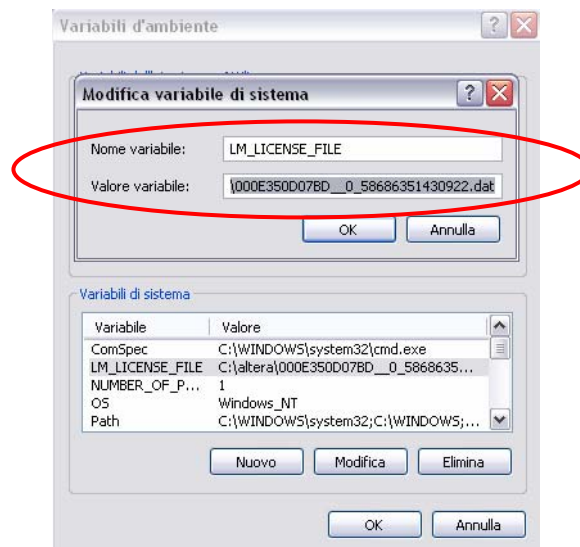

Figure 1: System variable settings
- A new system variable has to be set in the environment variable dialog box of the operating system. The name of the system variable is “LM_LICENSE_FILE” and the path, that reaches the “*.dat” file, to specify is, for example, “C:\<altera_installation_folder_path>\000E350D07BD_0_58686351430922.dat” as shown in figure 1: